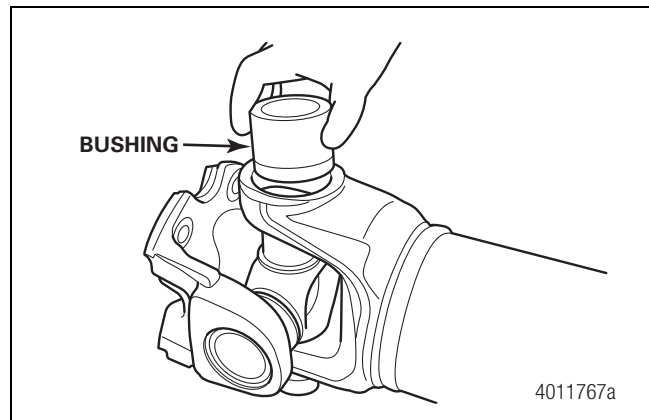

Figure 4.72
4. Install the bushing on top. Figure 4.72.